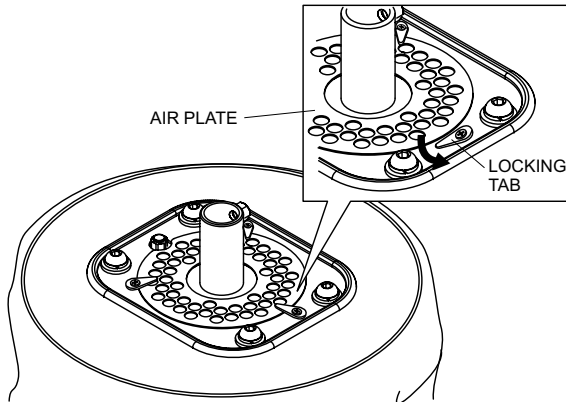

Figure 35. Accessing Filter
2. Turn the balloon/lamp assembly upside down to access the filter. See Figure 35.
3. Turn the three locking tabs outwards to release the air plate. See Figure 35.